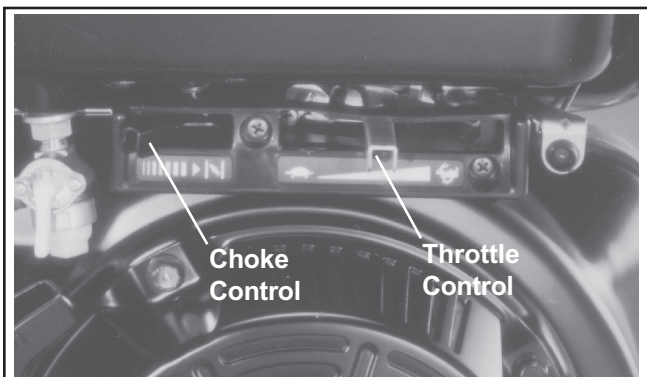

Figure 5. Control Panel.
2. **For a Cold Engine** – Place the throttle control midway between the “slow” and “fast” positions. See Figure 5. Place the choke control into the “on” position.